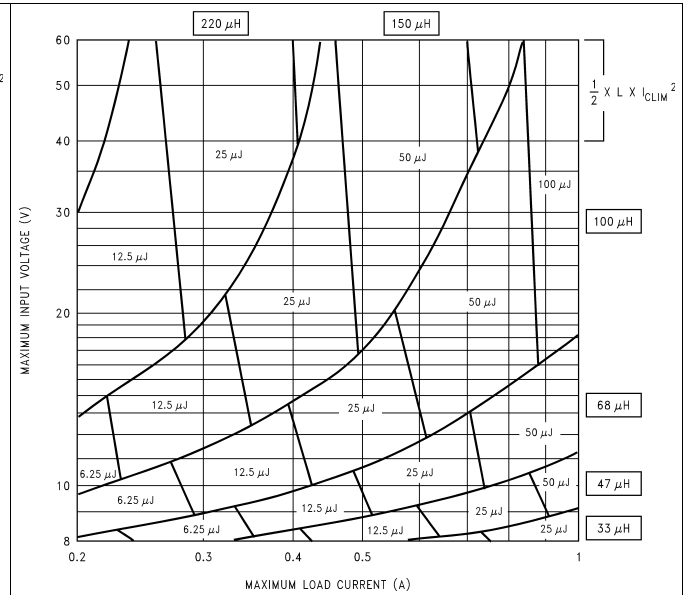

Figure 34. LM2590HV 5-V
1. A first pass inductor selection is based upon Inductance and rated max load current. We choose an inductor with the Inductance value indicated by the nomograph (see Figure 34) and a current rating equal to the maximum load current. We therefore quick-select a 68-μH, 1-A inductor (designed for 150 kHz operation) for this application
2. We must confirm that it is rated to handle 50 μJ (see Figure 34) by either estimating the peak current or by a detailed calculation as shown in AN-1197 Selecting Inductors for Buck Converters (SNVA038), and also that the losses are acceptable.
with the Inductance value indicated by the nomograph (see Figure 34) and a current rating equal to I_{CLIM} . We therefore quick-select a 68- μ H, 4-A inductor (designed for 150 kHz operation) for this application.